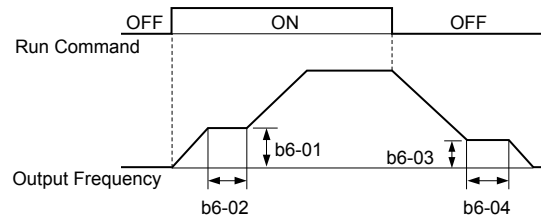

Figure 5.21 Dwell Function at Start and Stop
*Figure 5.21* illustrates how the Dwell function works.